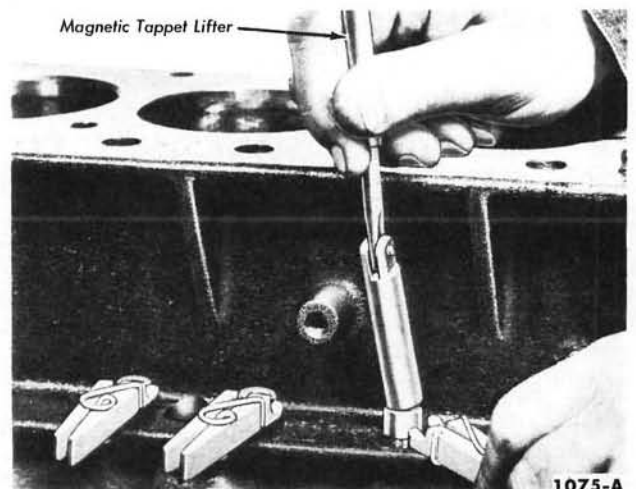

FIG. 28—Lifting and Securing Valve Tappets
6. Turn the camshaft until the tappets can be lifted with either a magnet (Fig. 28) or the fingers. Raise the tappets clear of the camshaft lobes and secure them with spring-type clothes pins or window regulator spring clips (Figs. 28 and 29).